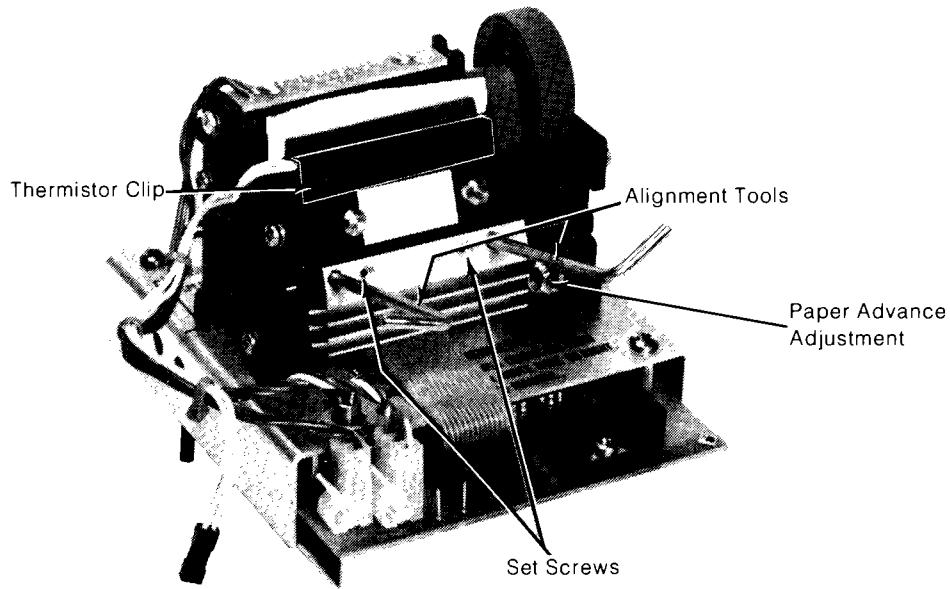

Figure 2-20. Print Head Alignment
Loosen the two allen setscrews (Refer to Figure 2-20) enough to move the print head slightly. Place the alignment fixture print switch to the ON position. Rotate the adjustment tools (8710-0693) to move the print head to obtain the best print quality. Make sure that the thermistor clip is not binding; this could make adjustment impossible.
- Loosen the lock nut on the advance adjustment screw (see Figure 2-20).